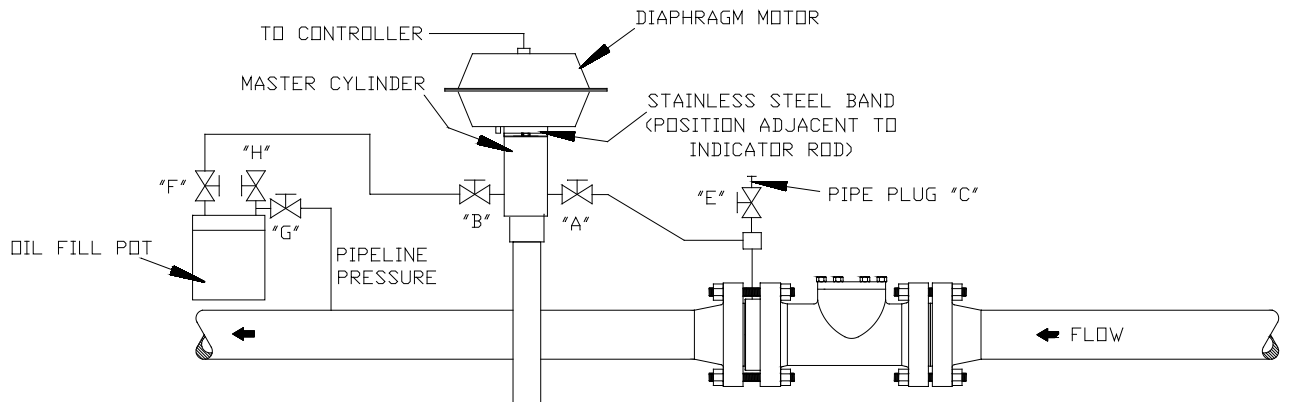

Figure 2
Method # 2 For Filling Hydraulic System over 4 feet (Figure 2, Pages 7-9)
Method # 2 For Filling Hydraulic System over four feet (Figure 2, Pages 6-8)
3. Connect pressure line, preferably regulated pipeline pressure (200 psig or 13.3 bar), to valve “G” (Figure 2, page 6). Use either high pressure S.S. tubing or high-pressure flexible tubing.
Note: Make sure the stainless steel band or collar (Figure 2, page 6) has been loosened and has been moved out from under the indicator rod. Retighten band in position adjacent to indicator rod. This will allow the band to be used as a reference point in step 1 of the "Purging Operation" (below) indicating full open position of the Control Valve and will aid in troubleshooting the hydraulic system.